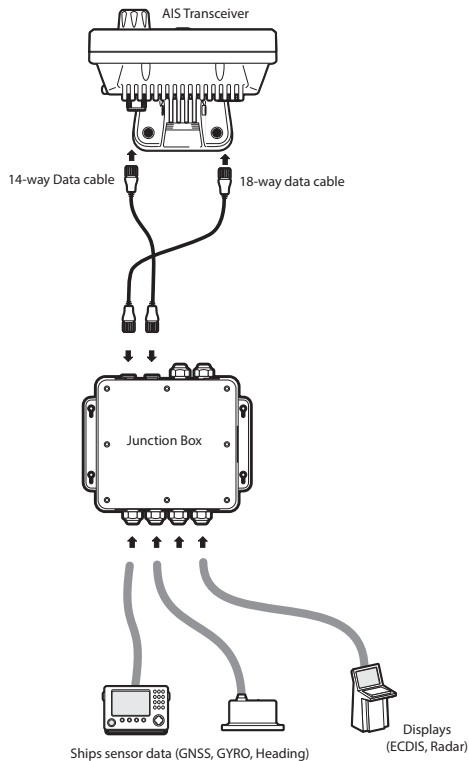

Figure 36 Connecting external equipment
- Figure 36. shows an example of how external equipment could be connected through the junction box accessory.